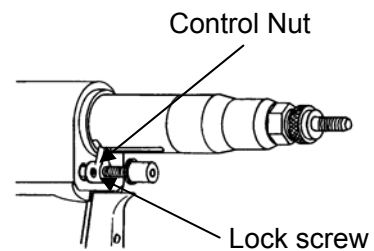

Figure 7-8
- Use the 1.5mm hexagonal wrench (provided) to loosen the lock screw on the control nut and turn the Control Knob counter-clockwise until the Control Nut reaches the end of its travel (Figure 7-8).